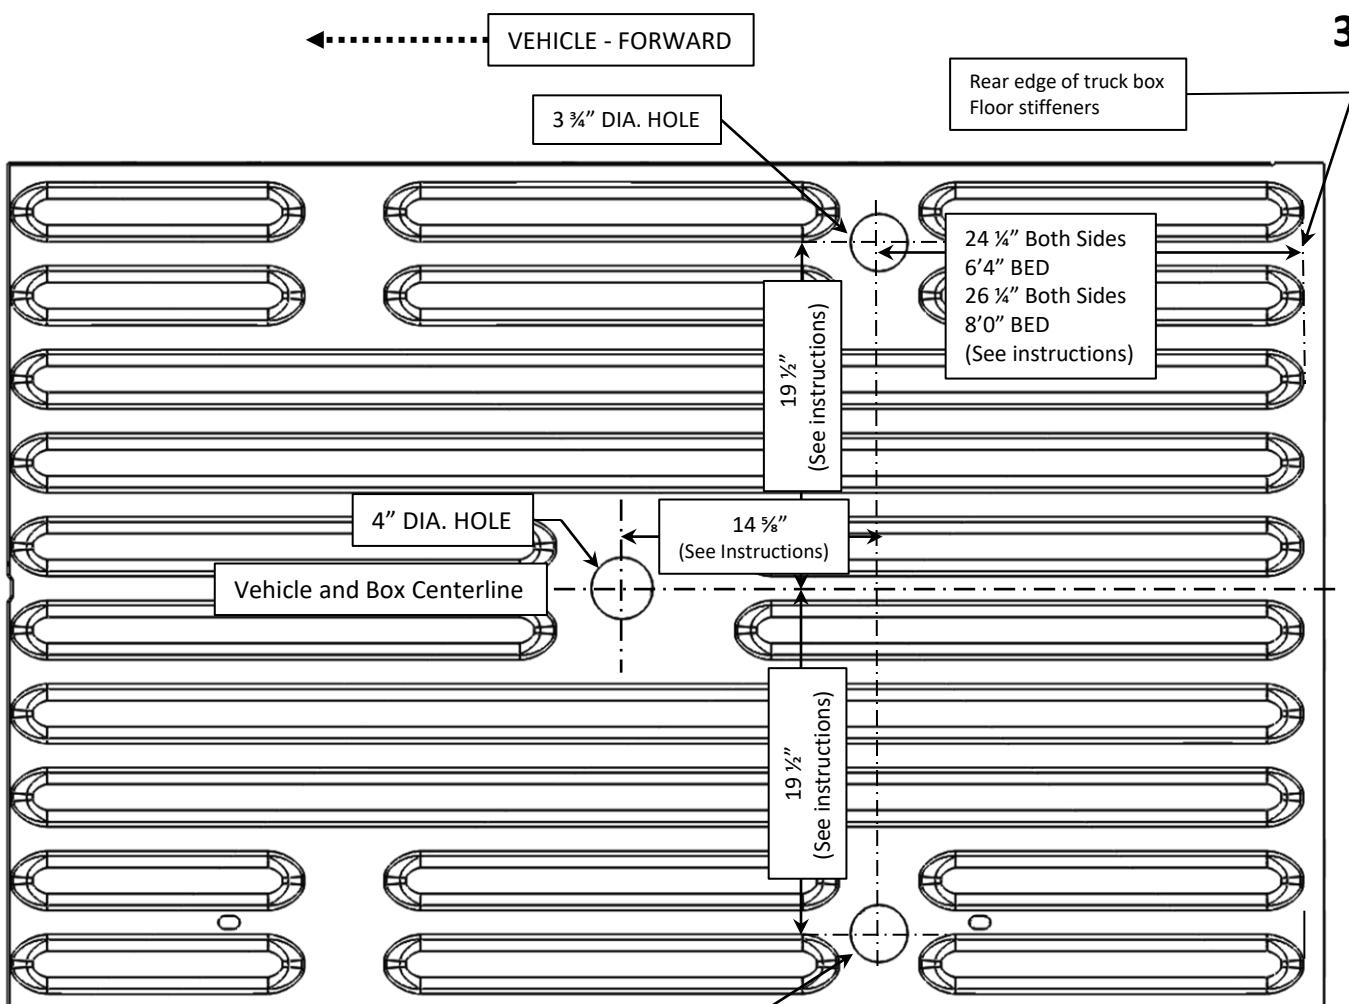

Figure 4
- 10) From inside the box, mark the centerline of the box. Use chalk or some other temporary marking method. For 6'4" beds, measure and mark a spot 24 1/4" (616mm) forward of the rearmost edge of the truck box floor stiffeners. For 8'0" truck beds, measure 26 1/4" (667mm) forward of the rearmost edge of the truck box floor stiffeners. Strike an additional line 90 degrees to the spot marked. (See Fig. 4)
- 11) Measure outward in both directions, along the line you marked in the previous step, 19 1/2" (495mm). You should have two targets marked (See Fig. 4)
CHECK YOUR WORK! From the top of the bed, verify that the 1/4" holes match the dimensions and appearance of Fig. 4. THIS IS YOUR LAST CHANCE to make adjustments before drilling the large 3 3/4" & 4" holes in your truck bed.